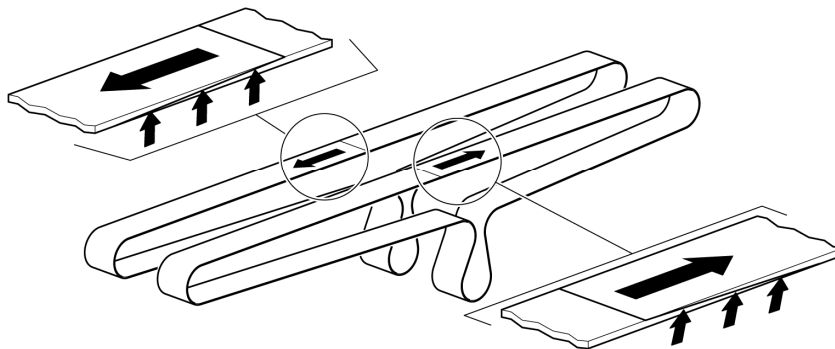

Fig.7
5. Fit the new transport belt and mount the components in reverse order. Note the running direction of the transport belt (see Fig. 7).